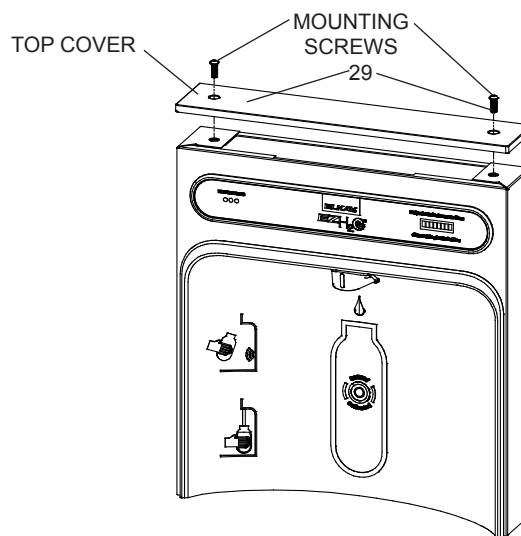
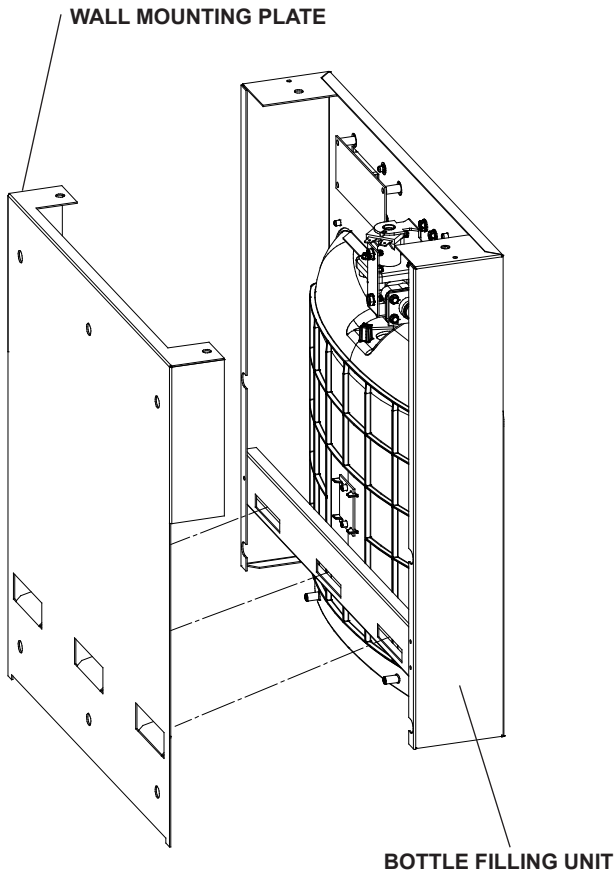

Fig. 5
Fig. 8
- 1) Remove two (2) mounting screws with 5/32" Allen wrench holding top cover to Bottle Filler (See Fig. 5). Remove top cover. Note do not discard mounting screws, they will be needed to reinstall top cover.
- 10) With the power cord, wire(s), and waterline through hole on top of water cooler place Bottle Filler on the three (3) angled tabs protruding from the wall mounting plate, installed on wall. Make sure round boss in gasket fits in hole of basin. (See Fig. 8).
- 11) Once Bottle Filler is installed on wall plate tabs, water line, wire(s) and power cord are installed properly, push top of Bottle Filler toward wall and line up top cover two (2) holes.
- 12) Reinstall Top Cover on Bottle Filler (See Fig. 5) with two mounting screws from step 1 above. Caution, do not over tighten screws.